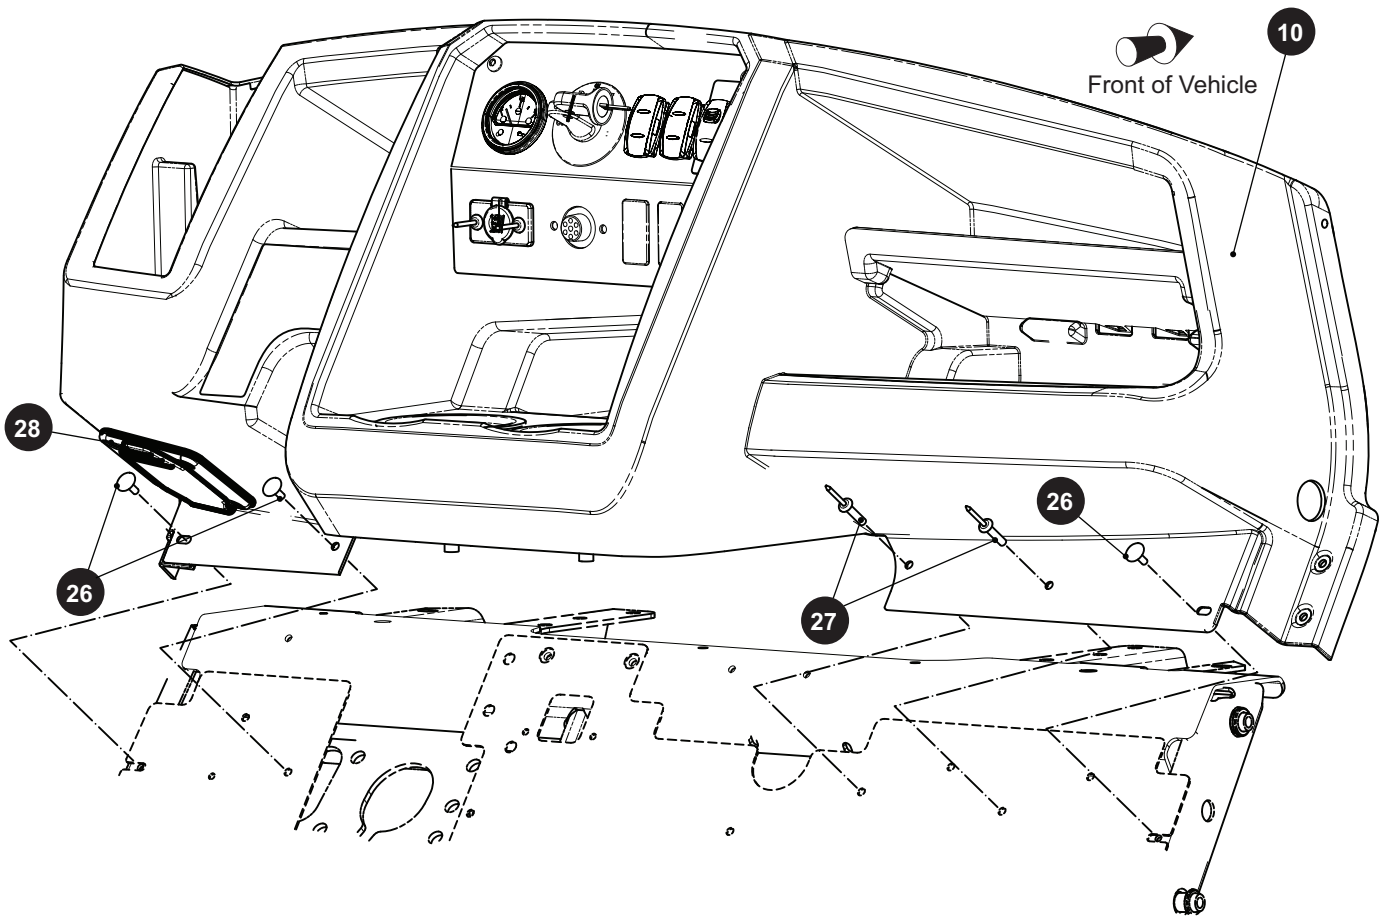

Fig. 9 Instrument Panel (Front)
9. Drill out the rivets (26, 27) securing the instrument panel to the floorboard (Ref. Fig. 9).